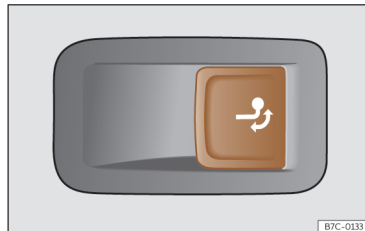

Fig. 191 On the right side of the luggage compartment: button for unlocking the tow hook.
- Pull the >>> Fig. 191 button briefly. The tow hook unlocks electrically and automatically turns outwards. The button's control lamp flashes.
- Pull the >>> Fig. 191 button briefly. The tow hook unlocks electrically.
- If the warning light on the button >>> Fig. 191 → flashes, this means that the tow hook has not been attached properly or is damaged. >>> ⚠
- If the warning lamp >>> Fig. 191 → remains on with the rear lid open, the tow hook is correctly in place both when extracted and when covered.
- Never press the >>> Fig. 191 button when there is a trailer hooked to the vehicle or when a carrier system or other accessories are mounted on the tow hook.